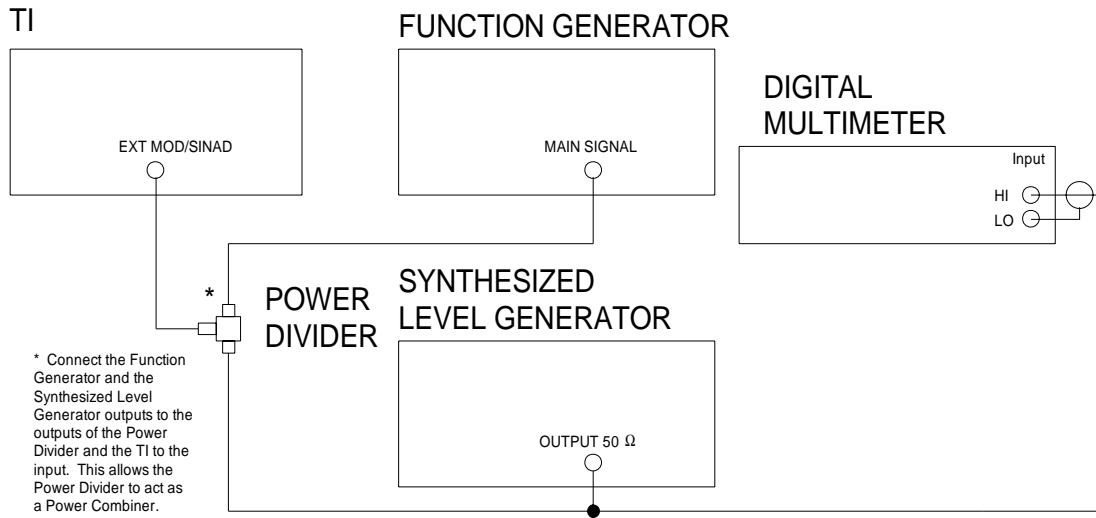

Figure 4.
4.11.1 Connect equipment as shown in Figure 4.